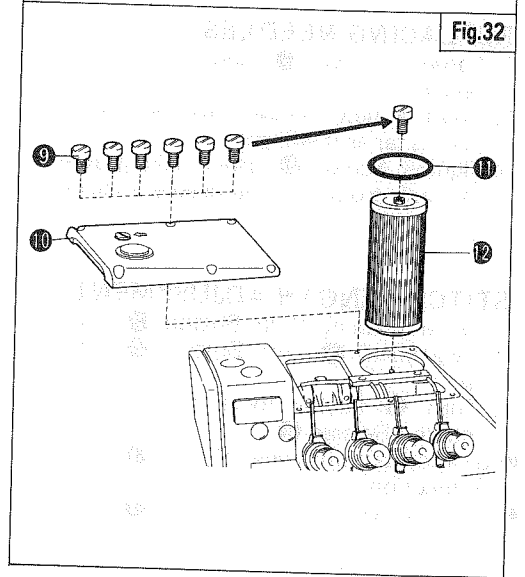

Fig.32
Refer to Fig. 32. Disassemble parts ⑨ — ⑪. Insert ⑨ into Filter ⑫ and take it out. Clean ⑫ or if necessary, replace it with a new one.